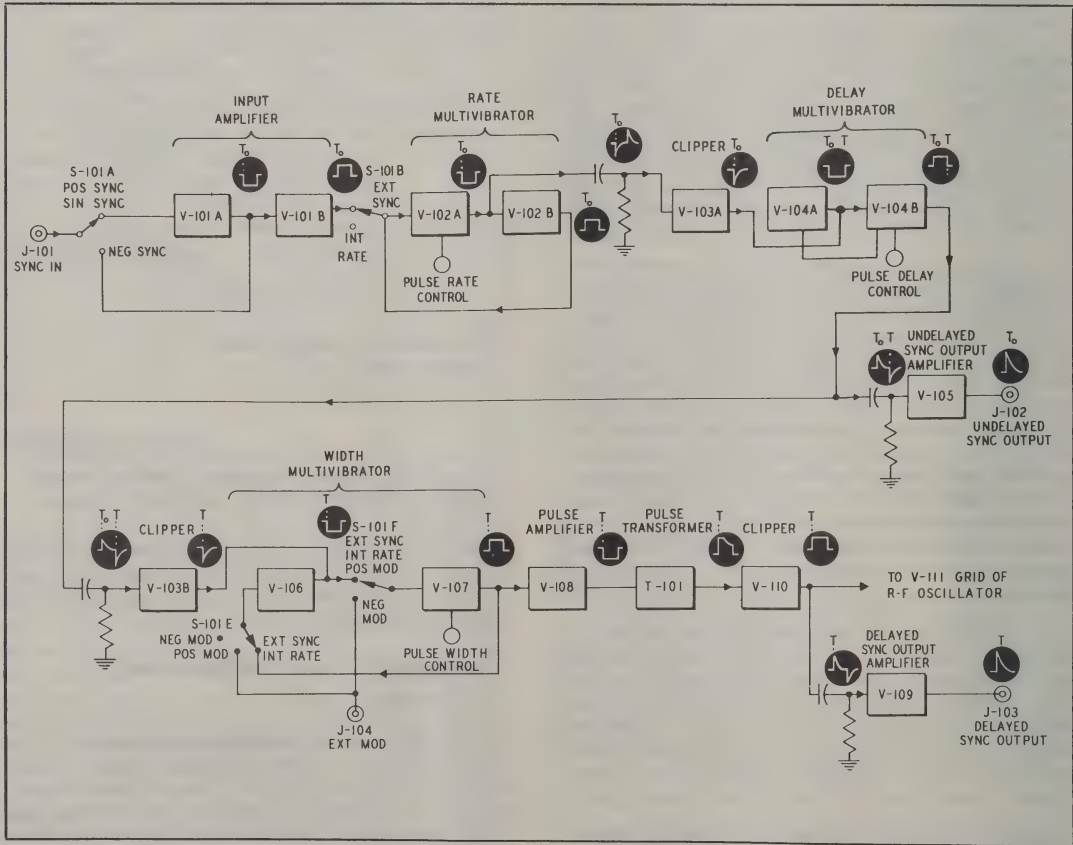

Figure 3-4. Signal Generator TS-419/U, Modulator and Synchronizer, Block Diagram
(1) The modulator and synchronizer includes tubes V-101 and V-110. The basic function of the modulator is to generate a positive video pulse of desired characteristics and to apply that pulse to the focusing grid of the reflex klystron V-111, so that V-111 will oscillate for the duration of the pulse.
(2) A block diagram of the modulator and synchronizer is shown in figure 3-4. The rate multivibrator V-102 determines the repetition rate of the pulses generated by the modulator. This multivibrator can be synchronized with external positive or negative pulses, or with sine-wave signals. Also, it can generate pulses as a result of its operating in a free-running condition. In order to trigger the multivibrator from sine waves, the sine waves are converted to square waves in the input amplifier V-101. An RC differentiator at the output of the amplifier converts the square waves to short pulses. The resulting waveforms are shown in the block diagram, figure 3-4.
(3) The output of the rate multivibrator is a negative pulse, the leading edge of which is coincident with the leading edge of the synchronizing voltage as shown by time T_0 . This negative pulse is differentiated by an RC network, giving a short negative pulse at time T_0 and a short positive pulse at a time coincident with the